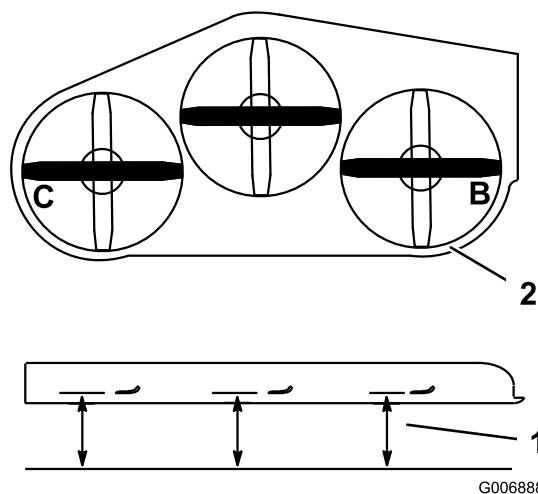

Figure 77
3. Position the blades side-to-side. Measure at **B** and **C** locations from a level surface to the cutting edge of blade tips (Figure 77).